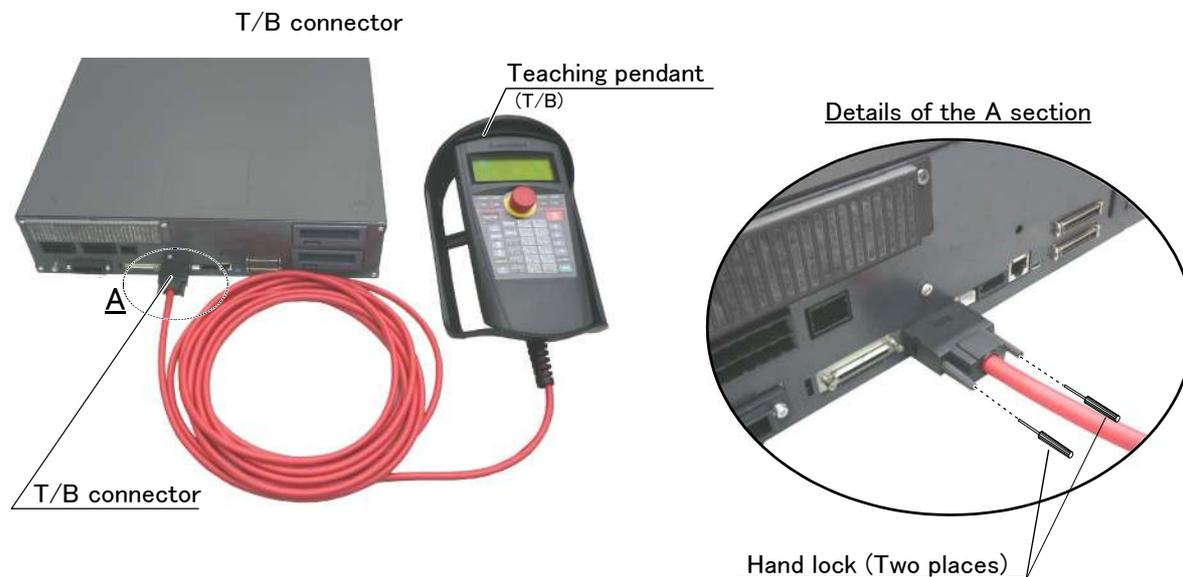

Fig. 2-15 : Installing and removing the T/B (CR751controller)
- 2) Connect the T/B connector to the controller's T/B connector. Make sure to fix it securely by fastening the hand locks (in 2 places), as shown in Fig. 2-15.